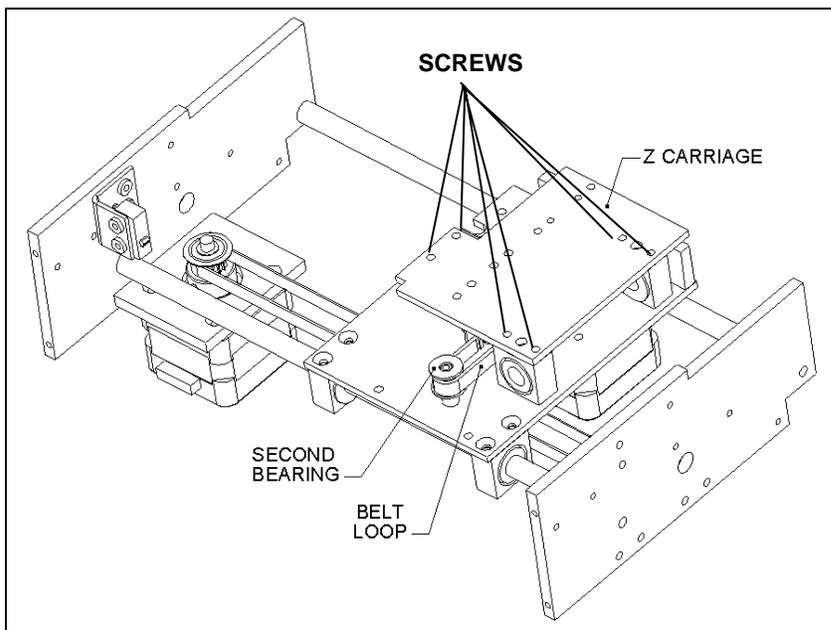

Figure 13-20 Z Carriage Assembly
- 2 Remove the six M3 X 6mm screws that attach the X-Carriage plate to the carriage assembly bearing blocks and the two M3 X 8mm Cap Screws securing the slider block (shown in Figure 13-20).
- 2 Remove the 6 screws that attach the Z carriage plate to the carriage assembly (shown in Figure 13-20).